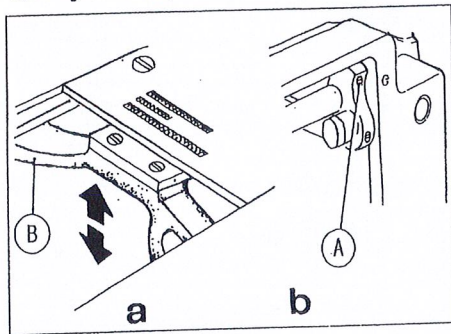

Fig. 22
### 17. ADJUST THE HEIGHT OF FEED DOG ( Fig.22,23 )
- 2) Loosen Screw ( A ) of feed lifting rock shaft crank right ( See Fig.22,b )
- 3) Move Feed Bar ( B ) in the direction shown by the arrow in Fig.22 ( a ) to adjust the height of the feed dog. The standard height of feed dog is that the top of feed dog is 1mm above Throat Plate Surface ( B ).